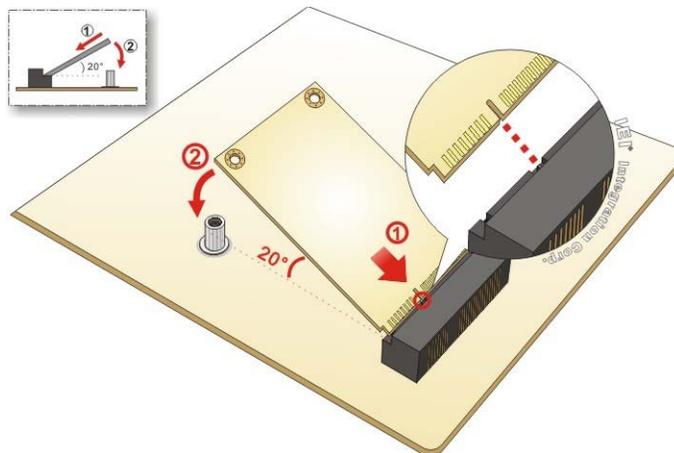

Figure 3-8: Inserting the Full-size PCIe Mini Card into the Slot at an Angle
Step 4: Line up the notch on the card with the notch on the slot. Slide the PCIe Mini card into the socket at an angle of about 20° (**Figure 3-8**).